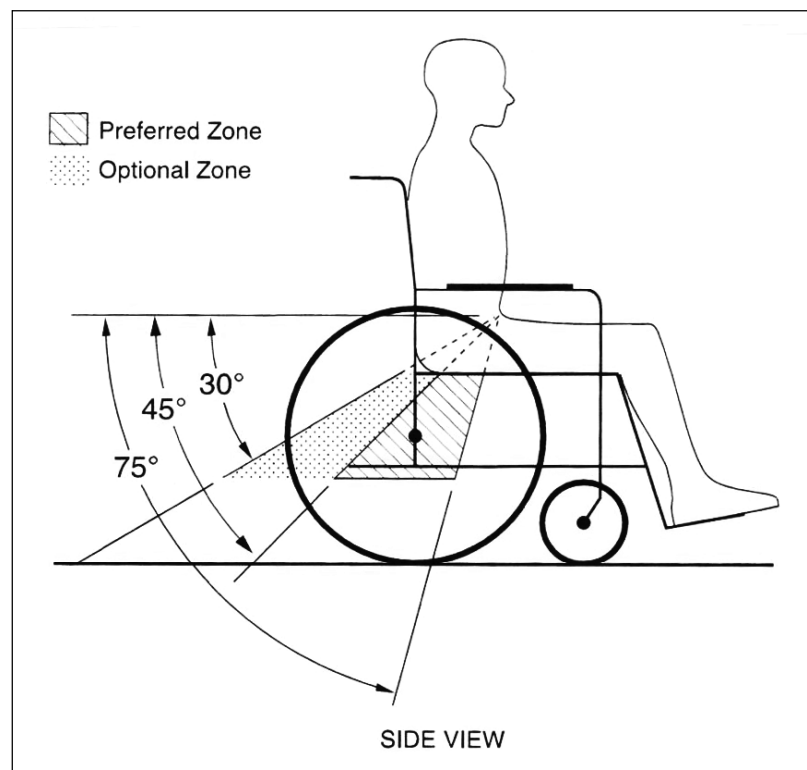

Figure 4
The angle of the pelvic belt restraint should be within the preferred zone of 30° to 75° relative to the horizontal and, ideally, between within 45° to 75° to the horizontal. See Figure 4.
1. Using the transit belt restraint hardware, install the wheelchair pelvic belt restraint to one side of the seat rail at the appropriate location to achieve the desired belt angle according to Figure 4.